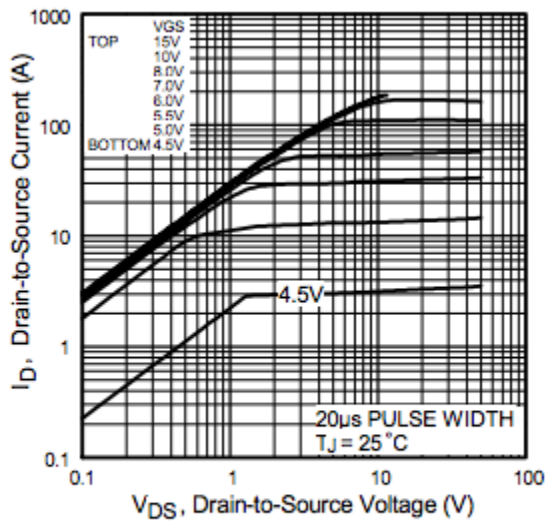

Fig 1. Typical Output Characteristics
We've already seen Figures 1 and 2:
- If drain-to-source voltage is positive but sufficiently low, the MOSFET acts like a resistor. In a log-log graph, this shows up as lines where the slope is 1. (in Fig. 1, this is shown for $V_{GS} = 4.5V$ up to about 1.1V V_{DS} ; for $V_{GS} \geq 8.0V$ it's true up to about 10V V_{DS})